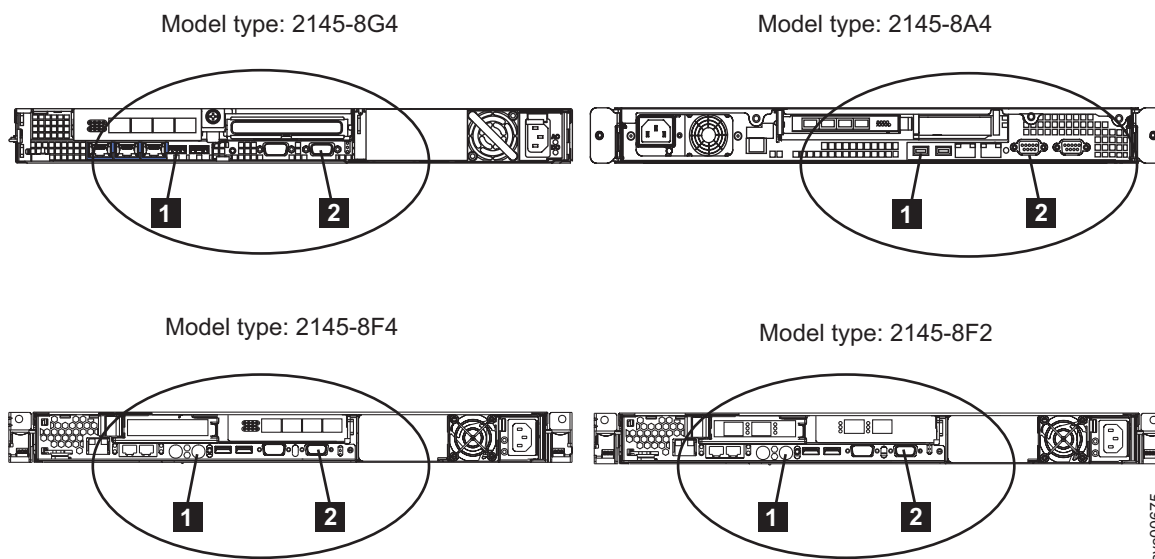
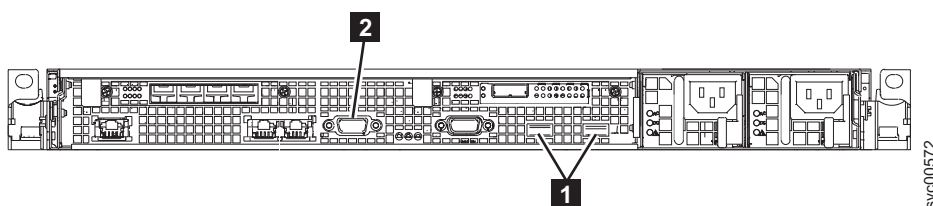

Figure 96. Keyboard and monitor ports on the SAN Volume Controller models 2145-8G4, 2145-8A4, 2145-8F4 and 2145-8F2
Figure 97. Keyboard and monitor ports on the SAN Volume Controller 2145-CF8
- b. Connect the keyboard **1** and the display **2**. Figure 96 shows the location of the keyboard and monitor ports. Figure 97 shows the location of the keyboard and monitor ports on the 2145-CF8.